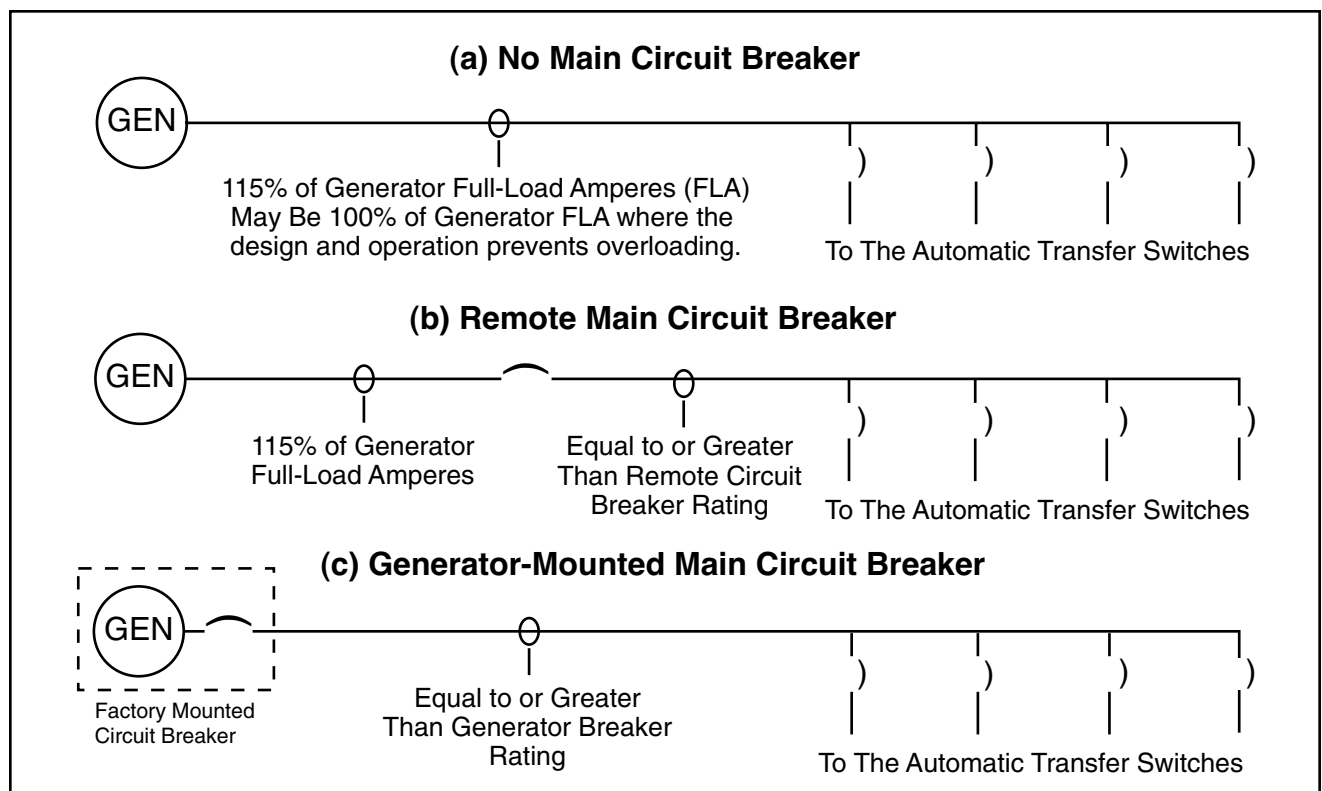

Figure 3
a) No main circuit breaker (MCB). If no generator disconnect is required and the manufacturer includes a means of generator overload protection, connect feeders to the generator output terminals. The ampacity of the field-installed AC phase conductors from the generator output terminals to the first overcurrent device should be at least equal to 115 percent of the rated full-load current. See Figure 3(a).
may be a smaller AWG size than would be required for field installation. See *Figure 3(b)*.
c) *Generator-mounted MCB.* If the generator set comes supplied with a factory-installed MCB mounted on the assembly, the ampacity of the field-installed AC phase conductors connected to the load terminals of the circuit breaker should be equal to or greater than the circuit breaker rating. See *Figure 3(c)*.